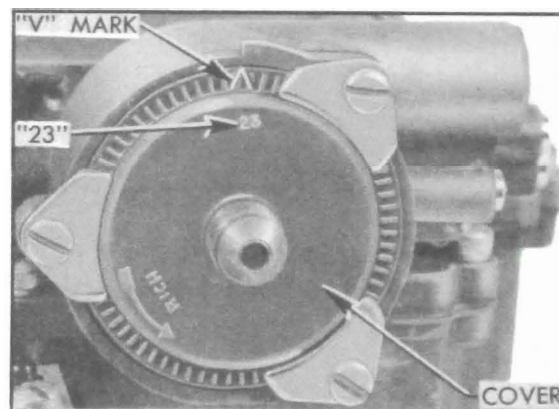

Figure 3-95—Choke Thermostat Standard Setting
25. Install thermostat cover with washers and screws. Note: *The correct thermostat and cover assembly has the figure "23" stamped on cover adjacent to "V" mark. Do not use a part with any other number.* Rotate cover in direction of arrow until choke valve just closes, then align the "V" punch mark on cover with end of indicator boss on choke housing and tighten screws. See figure 3-95.